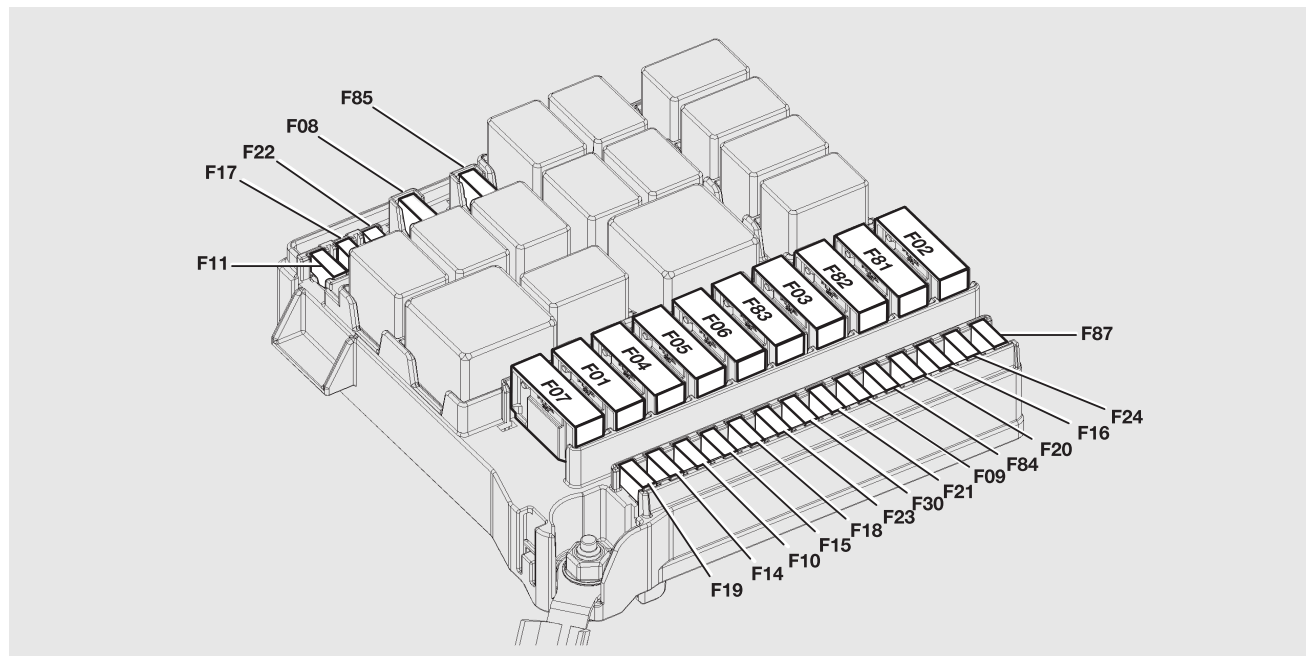

fig. 173
- ❑ the fuse box can be accessed in this manner fig. 173.
PROTECTED DEVICE - fig. 173